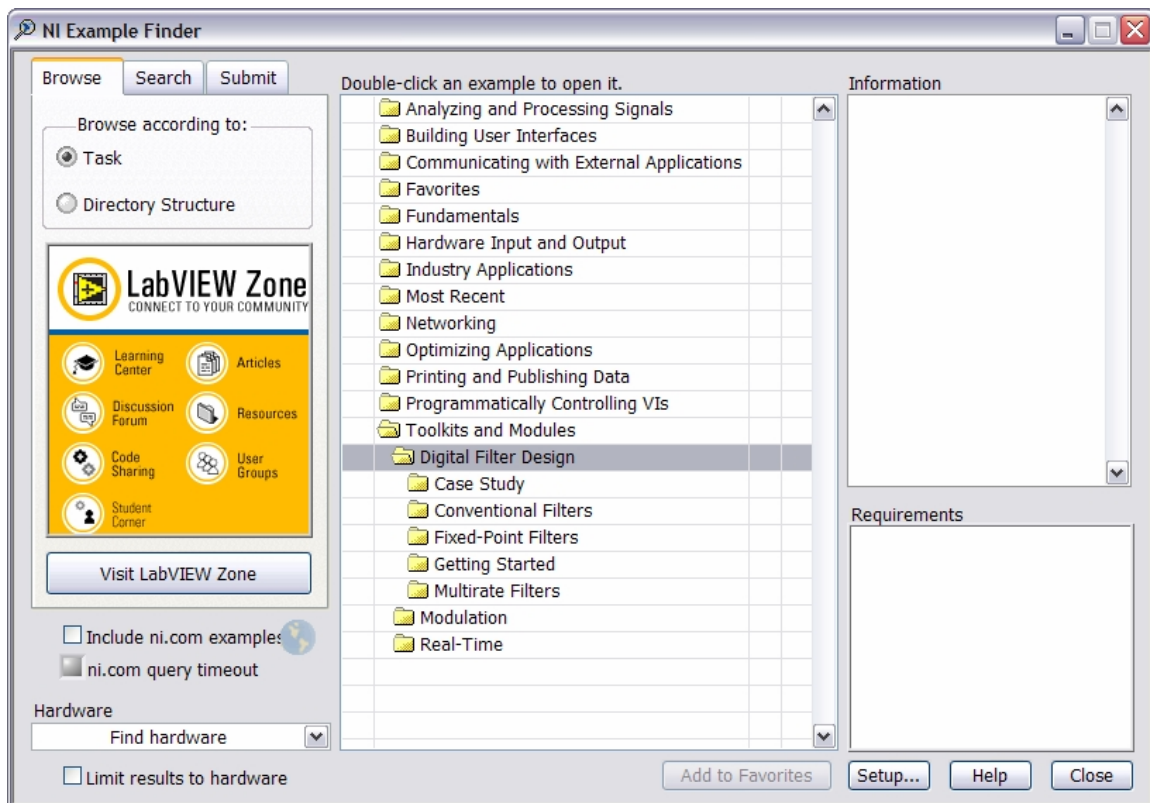

Figure 13. NI Example Finder
3. Using Figure 13 as a guide, locate and open the **Digital Filter Design** example category by navigating to the **Toolkits and Modules»Digital Filter Design»Case Study** folder.